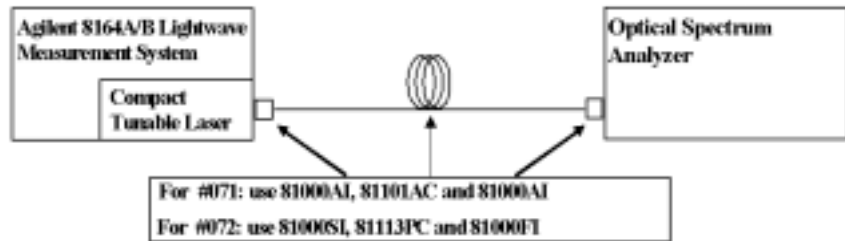

Figure 31 Test Setup for Source Spontaneous Emission Test.
- 1 Set up the equipment as shown in Figure 31: